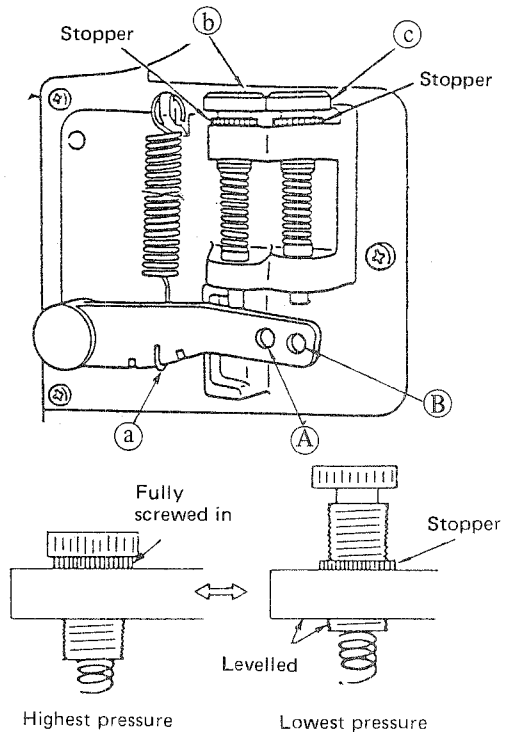

Fig. 10
(2) Adjusting the pedal stroke
The pedal stroke varies depending upon whether the connecting rod is attached to (A) or (B) in Fig. 10. The pedal stroke becomes smaller when the connecting rod is attached to (A) than when attached to (B), with resultant increase in the forward or backward treading pressure. Accordingly, when only the pedal stroke is required to be changed, perform adjustment of the pedal pressure after changing the installation position ((A) or (B)) of the connecting rod.